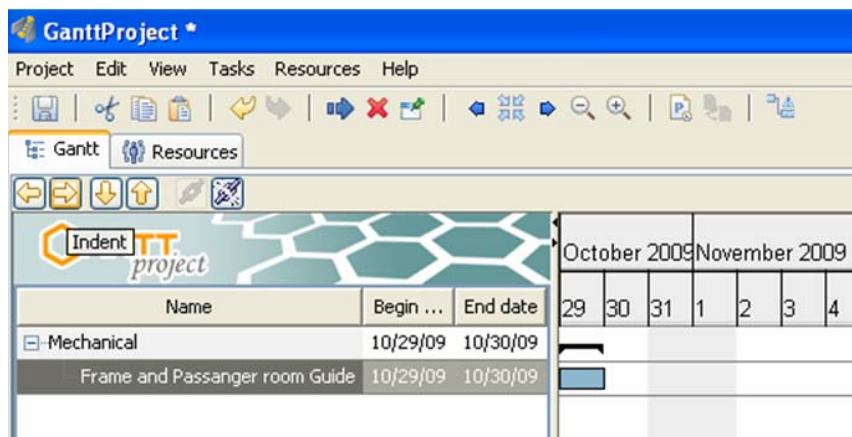

Figure 3.9: The indent button in the Gantt tab toolbar.
2. Click the New Task button to add a second task to the Tasks pane. Type **Frame and Passenger room Guide**, press **ENTER**, and then click the **Indent** button in the Gantt tab toolbar as shown in figure 3.9.